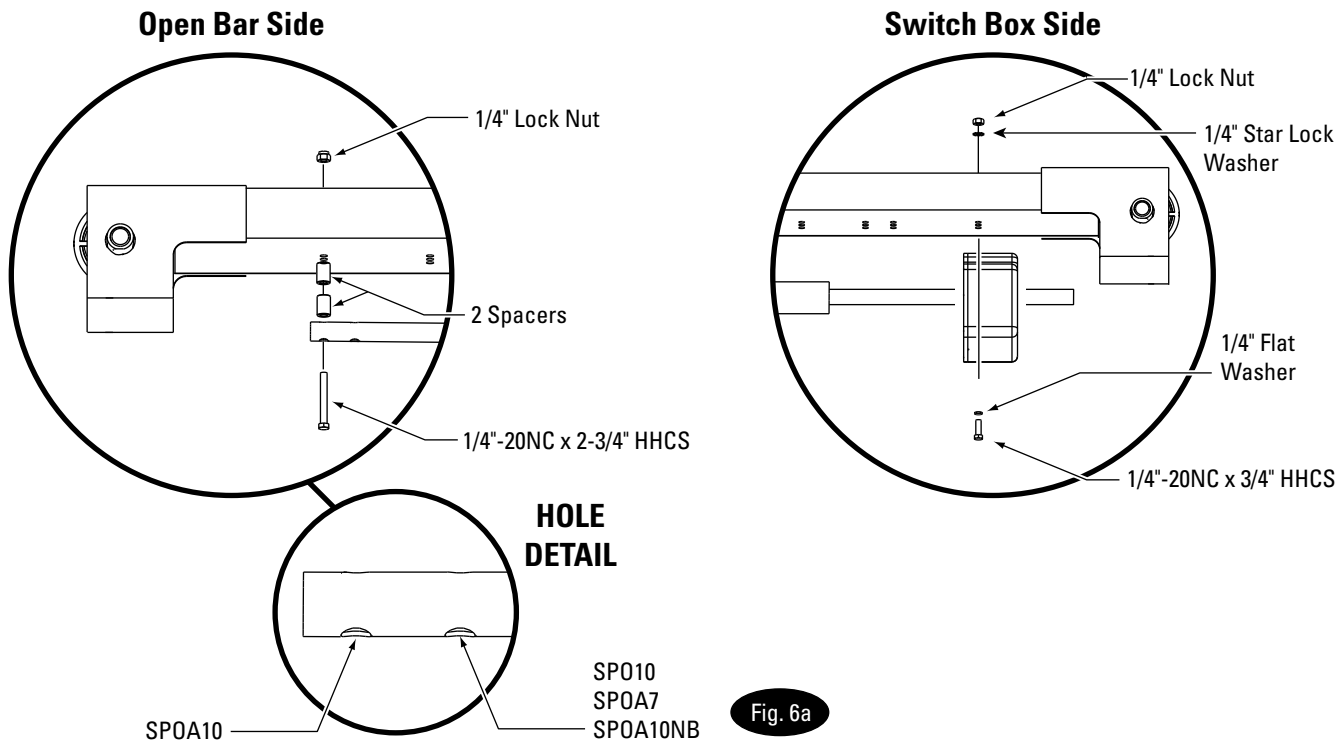
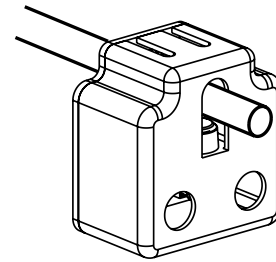

Fig. 6a
Fig. 7
Slide Switch Box over switch bar ensuring knock out holes face the power unit column, Fig. 7 and Fig. 8. Use (2) 1/4\"-20NC x 3/4\" lg. HHCS, 1/4\"-20NC Nuts and 1/4\" Star Washers to mount switch box to overhead, see Fig. 6a. For SPOA10 Extra Narrow Bay Setting installation, see step 7b, all others go to step 7c.